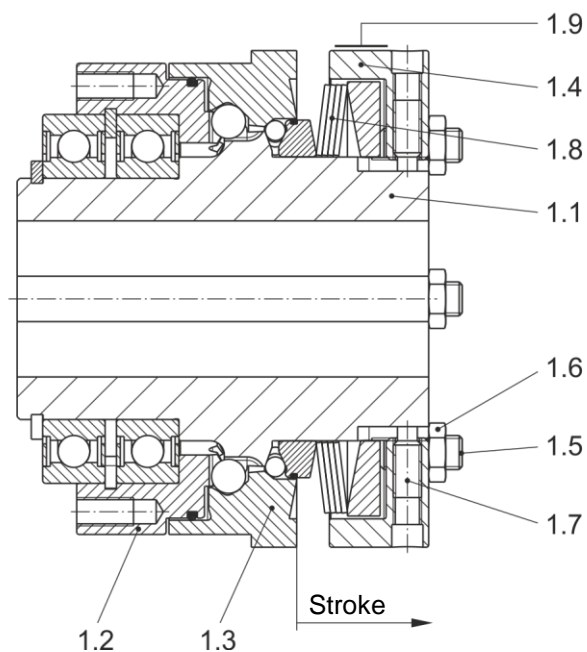

Fig. 2
| Clutch size | Motor size | Tightening torque Item 7 [Nm] | Tightening torque Item 8 [Nm] | Thrust washer stroke (Fig. 2; Item 1.3) on overload [mm] | Bore from – to [mm] |
The adjusting nut (6) is marked with dimension "a" (70% of the maximum torque, see Figs. 2 and 5).